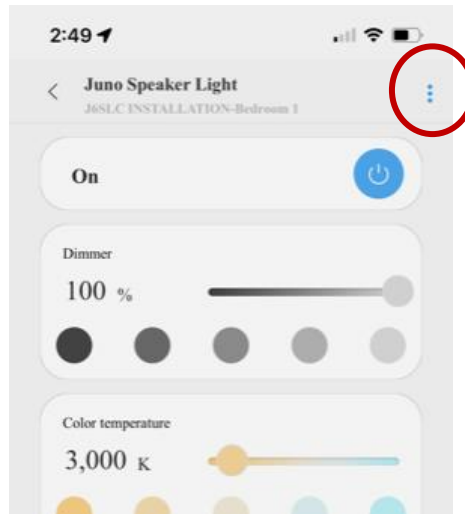

Figure 8
2. Select the product tile icon in the upper right-hand corner of the device settings. (Figure 8)